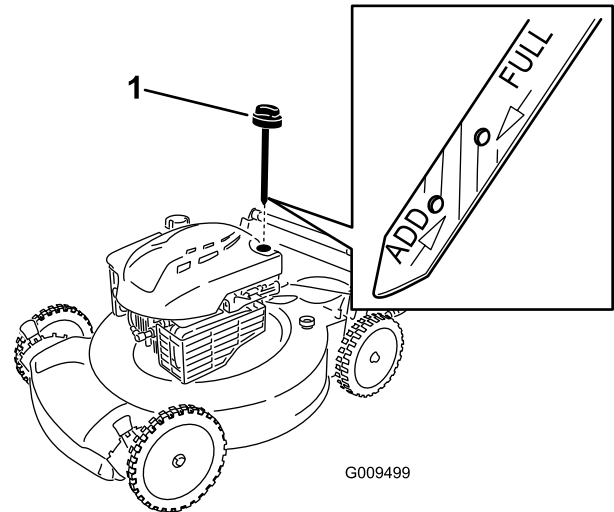

Figure 8
1. Remove the dipstick, wipe it clean, and fully install the dipstick (Figure 8).
2. Remove the dipstick and check the oil level (Figure 8). If the oil level is below the **Add** mark on the dipstick, **slowly** pour oil into the oil fill tube to raise the oil level to the **Full** mark on the dipstick. **Do not overfill.** (Max. fill: 20 oz. (0.59 l), type: SAE 30 detergent oil with an API service classification of SF, SG, SH, SJ, SL, or higher.)